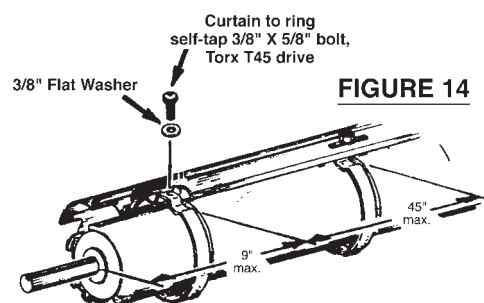

FIGURE 14
- If the barrel has rings, hold the top slat on the rings and make holes in the top slat aligned with holes in rings. Use drill/driver to attach top slat to rings with 3/8" round head Torx screws and washers provided. Set the drill/driver clutch to minimum torque required to drive screws. **DO NOT USE IMPACT WRENCH** because it will strip the screw threads in rings. See Figure 14.